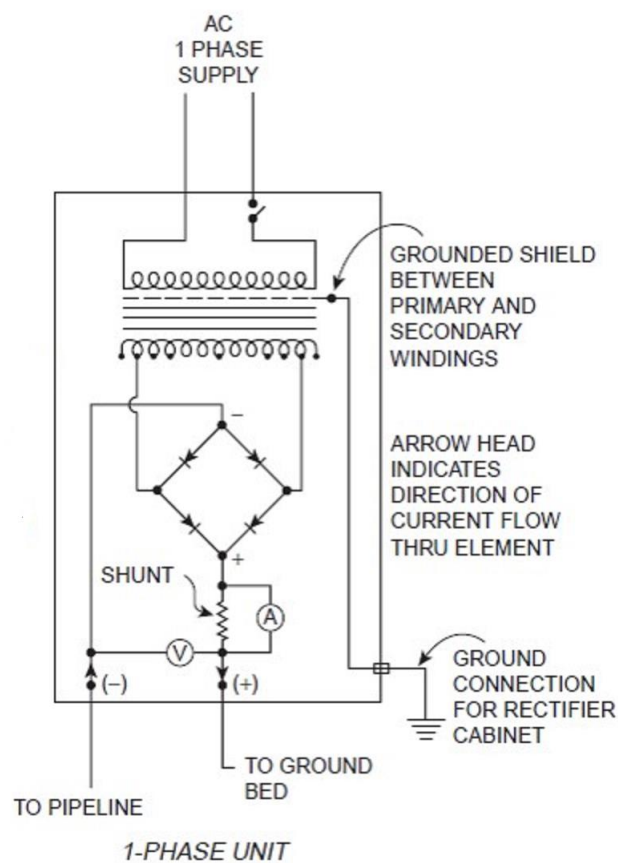

Figure 3 Rectifier of ICCP.
- (c). What is the function of grounded shield between primary and secondary winding in the rectifier as illustrated in Figure 3.